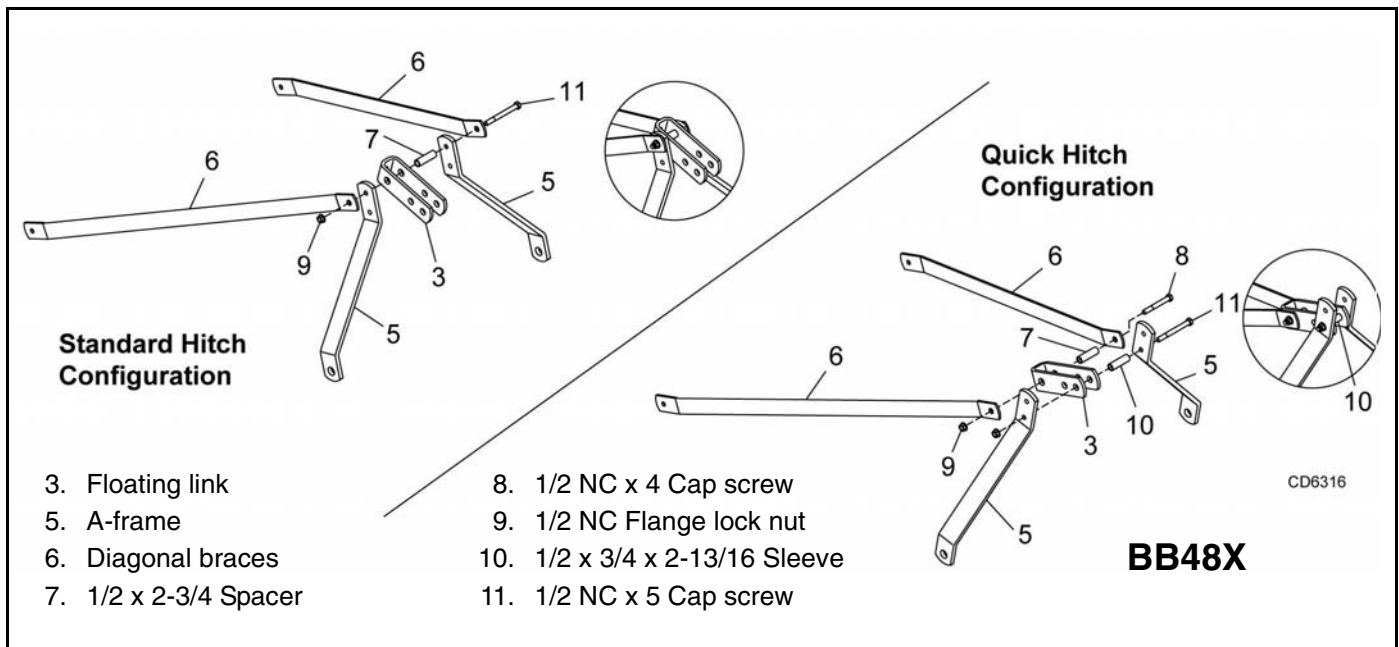

Figure 3. Standard Hitch and Quick Hitch Configurations - BB48X Only
Quick Hitch Attachment - BB48X Only (Figure 3)
- Remove brace arms (6), floating link (3), cap screw (11), spacer (7), and flange lock nut (9) from upper hole on A-frame bars (5) as shown on left in Figure 3.
- Attach open end of floating link (3) to the bottom hole of A-frame bars (5). Secure using cap screw (11), sleeve (10), and flange lock nut (9) as shown on right in Figure 3.
- Attach closed end of floating link (3) to diagonal braces (6). Secure using cap screw (8), spacer (7), and flange lock nut (9) supplied in hardware bag.